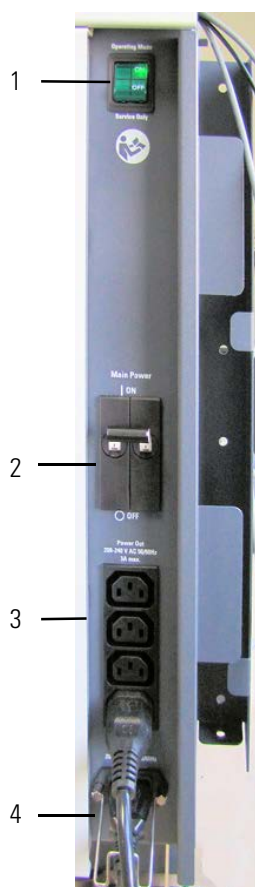

Figure 4-2. Power column
Electric Current. Electric shock hazard. Do not use the electronics service switch to shut down the instrument. See Figure 4-2. The electric components of the vacuum system will still be connected to the electric power supply and the pumps will remain running. Placing the main power circuit breaker switch on the power column in the Off (O) position may not be sufficient for safe work on the instrument.